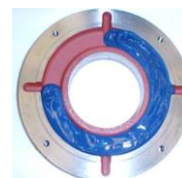

Figure 7.5: Outer bearing cap
- Fill up to  $\frac{3}{4}$  of the inner and outer bearing cap deposits with the recommended grease (Figure 7.5) and lubricate the rolling bearing with enough grease before assembling it;